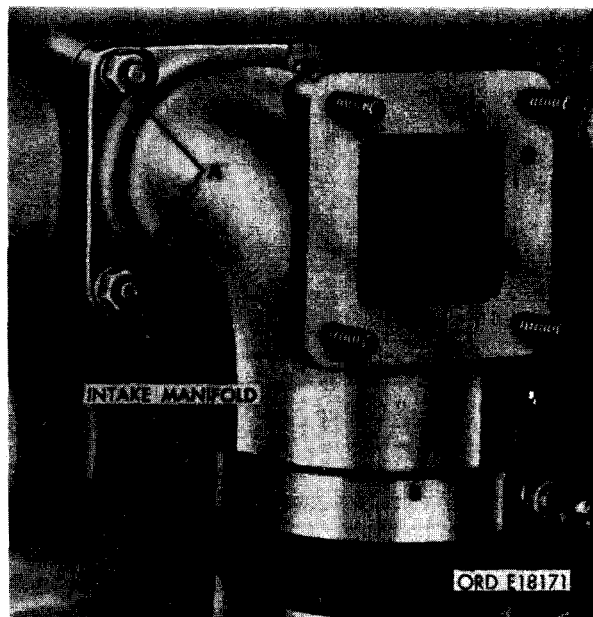

FIGURE 247. REMOVING OR INSTALLING INTAKE MANIFOLD ELBOW.
- (3) Figure 247. (A) Remove two 5/16-inch plain nuts and 5/16-inch lock washers securing the intake manifold elbow to the intake manifold. (B) Remove intake manifold elbow with the turbosupercharger-to-intake manifold hose and clamps attached.